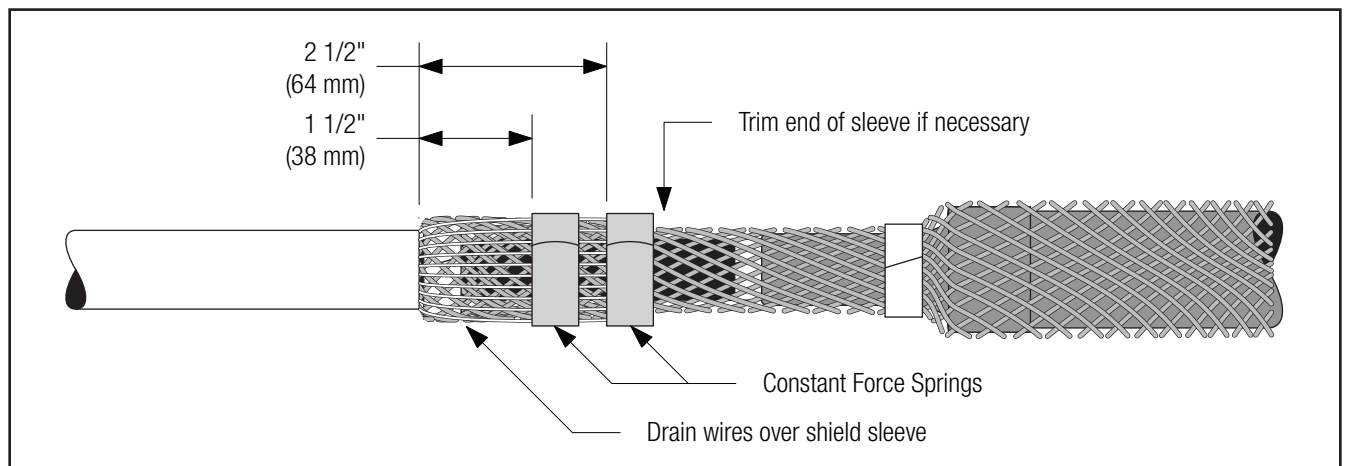

Figure 26
6.3.2 Bend ends of sleeve back over vinyl tape. Position drain wires over the shield sleeve and secure with constant force springs at 1 1/2" (38 mm) and 2 1/2" (64 mm) from jacket end. Trim off excess sleeve 1/2" (13 mm) from springs, if necessary (*Figure 26*).